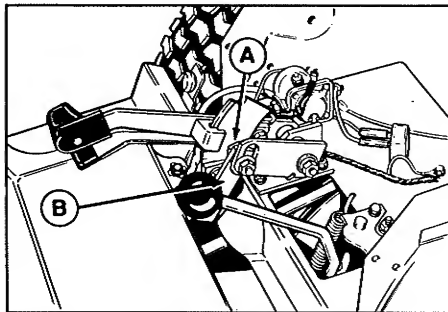

Figure 25. Speed Control Lever
4. Loosen the shoulder bolt (A, figure 25) so it is free to slide in the slot.
12. Place your finger on top of the bar (B, figure 25) and push the bar down until it stops.